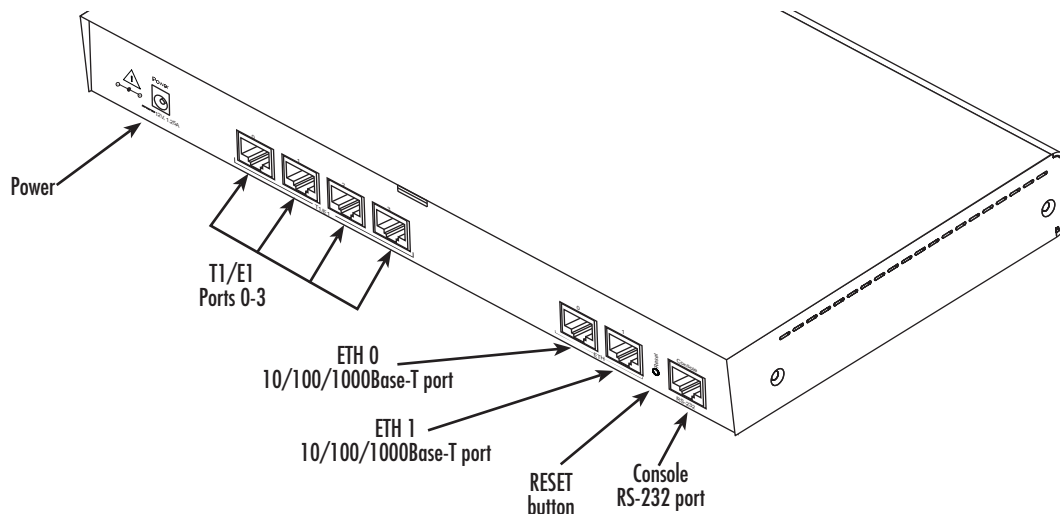

Figure 7. Power connector location on rear panel
1. Insert the barrel type connector end of the AC power cord into the external power supply connector (see figure 7).
5. Verify that the green *Power* LED is lit (see figure 7).